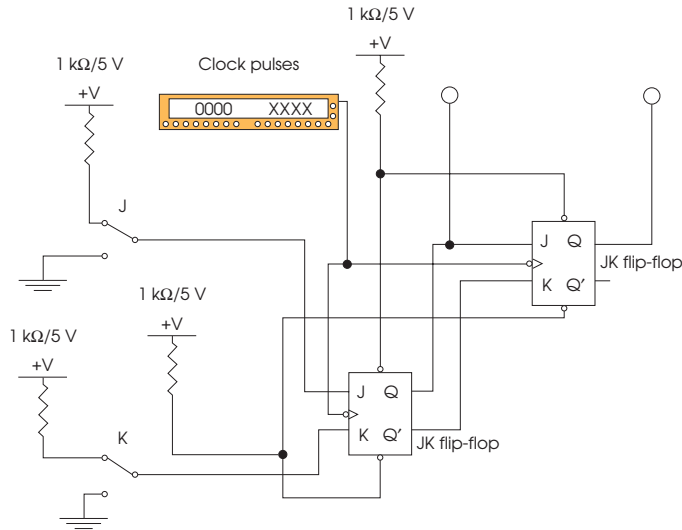

Figure 7-2. Sequential logic circuit. These circuits require clock pulses.
Sequential logic devices have outputs that depend on their inputs as well as time. They require clock pulses. Therefore, an inherent delay time is always present for the sequential logic circuits. Flip-flop devices such as reset-set (RS), JK, delay (D), and toggle (T) are sequential logic devices. **Figure 7-2** displays a sequential logic circuit.